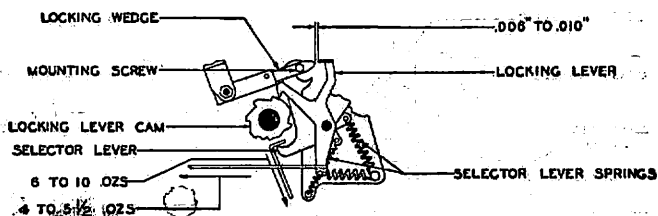

Fig. 3
\*4.07 **Selector lever springs** shall have a tension of min. 6 ozs., max. 10 ozs. measured as in Fig. 3 when letters combination has been set up, main shaft has been rotated until main bail is in its highest position, and the swords have been moved manually to their "spacing" position.
4.14 **Locking wedge** shall clear locking lever by min. .006", max. .010" as in Fig. 3 when lever is resting on the long high part of its cam and end of wedge is held in line with lever.
4.15 **Locking lever spring** shall have a tension of min. 4 ozs., max. 5-1/2 ozs. measured as in Fig. 3 when lever starts to move from high part of its cam.